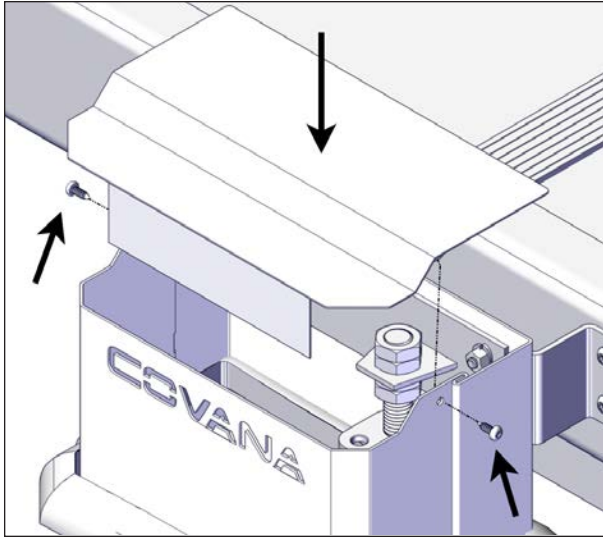

FIGURE 89: TOP PLATE COVER INSTALLATION
23. Attach the top plate cover for all posts. Use the provided Robertson #8X 1/2" self-drilling screws (2 screws per post), see Figure 89